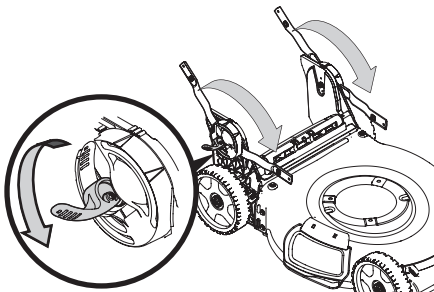

Figure 7
2. Unlock the two handle release levers (Figure 7, inset).